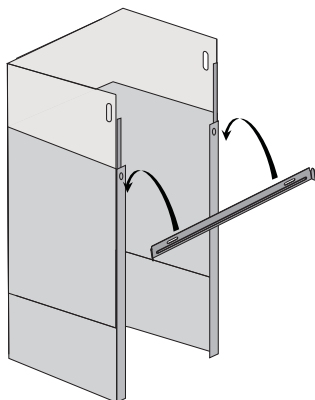

Figure 5
- Hook lower chimney bracket to lower chimney, then screw the lower chimney bracket onto wall (see Figure 5).